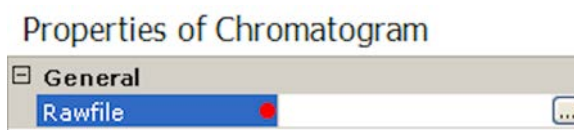

Figure 3-15. Selecting a raw file
1. In the Properties of Chromatogram pane, click into the empty field of the Rawfile parameter to display the  button. See Figure 3-15.